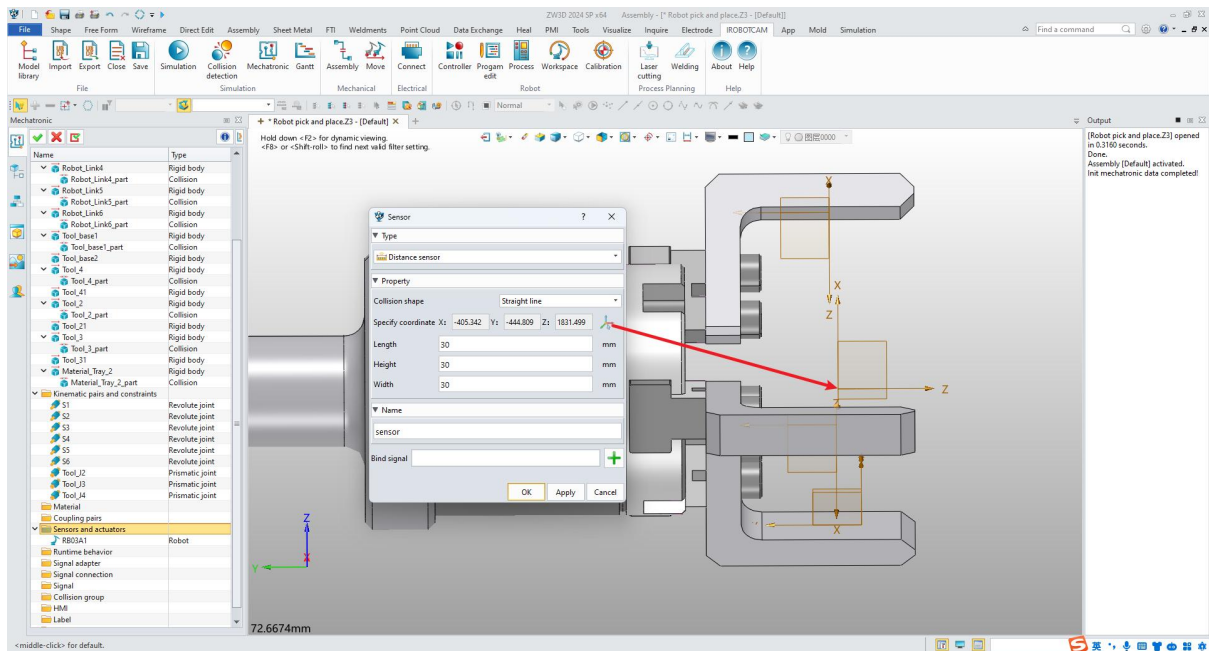

Figure 10-5: Impact Sensor
- Click “OK” to add the sensor to the scene. (Figure 10-5)